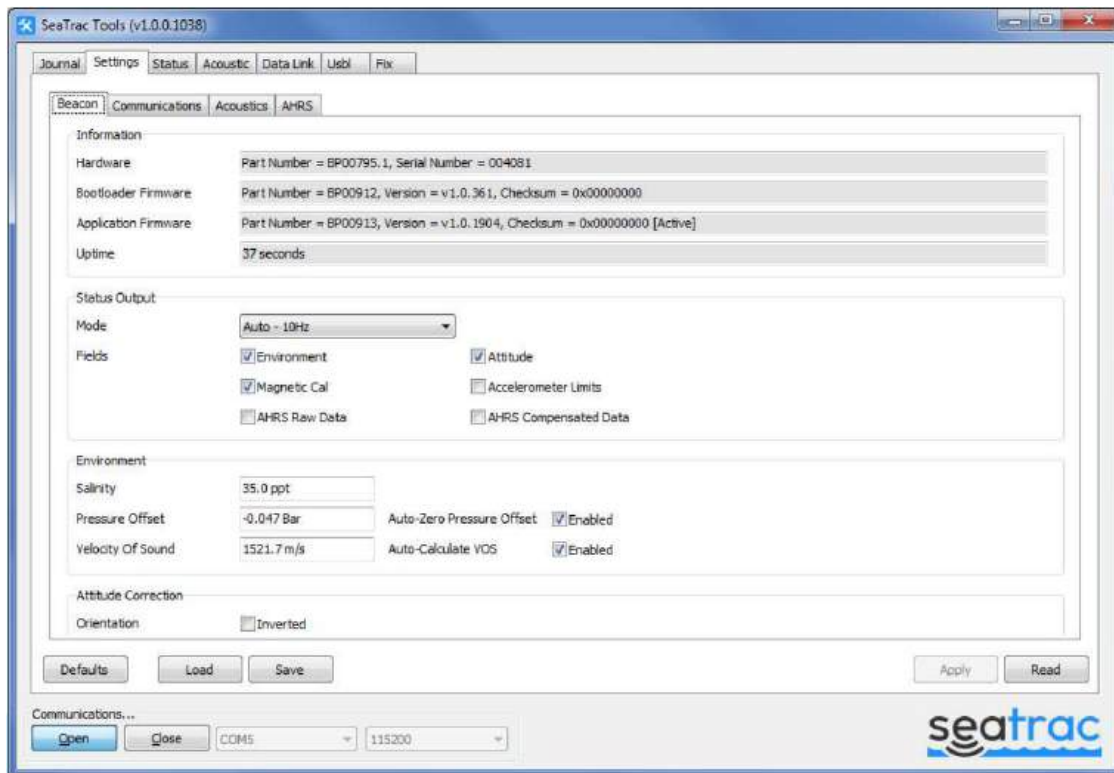

Figure 3.7: A screenshot of the SeaTrac Tools application used to verify that the USBL is working properly.
- the correct COM port and selecting 115200 baud communications. Click 'Open' to verify that the USBL beacon is working (Figure 3.7).